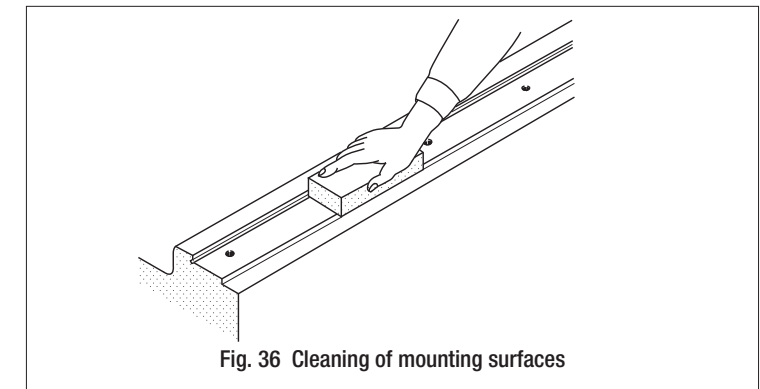

Fig. 36 Cleaning of mounting surfaces
① Cleaning of mounting surfaces
- Remove burrs and blemishes from reference mounting surfaces and mounting surfaces of the machine using an oil-stone, etc., and then wipe the surfaces with clean cloth. (See Fig. 36.)
Generally, two sets of Linear Way Modules are used in parallel as shown in Fig. 36. They are usually mounted according to the following procedure. (See Fig. 40.)